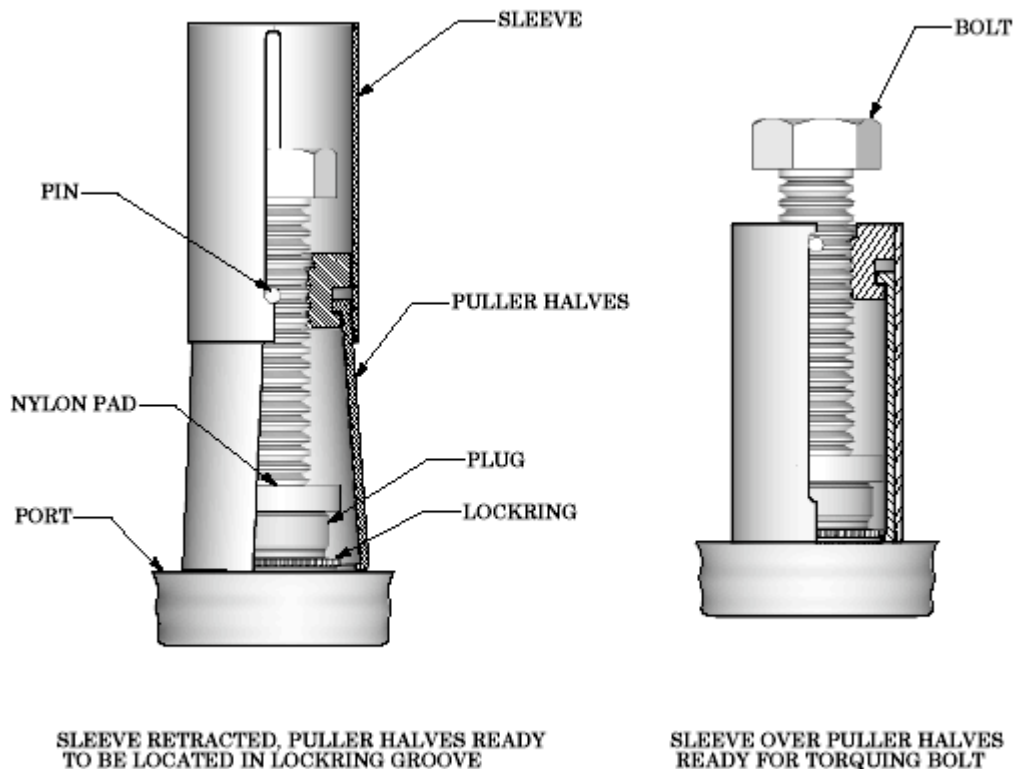

FIGURE 5 - LOCKRING RETRACTION
7.2.2. Spread the puller halves apart by retracting the sleeve from the tool until the pin bottoms in the groove of the sleeve per figure 5. Holding the puller halves apart, place tool over protruding plug so that the nylon pad rests on the top surface of the plug. Release the puller halves and locate in the groove of the lockring. Adjustment up or down is achieved by rotating the bolt head. Slide the sleeve over the puller halves and check for proper engagement of the puller halves in the lockring groove.